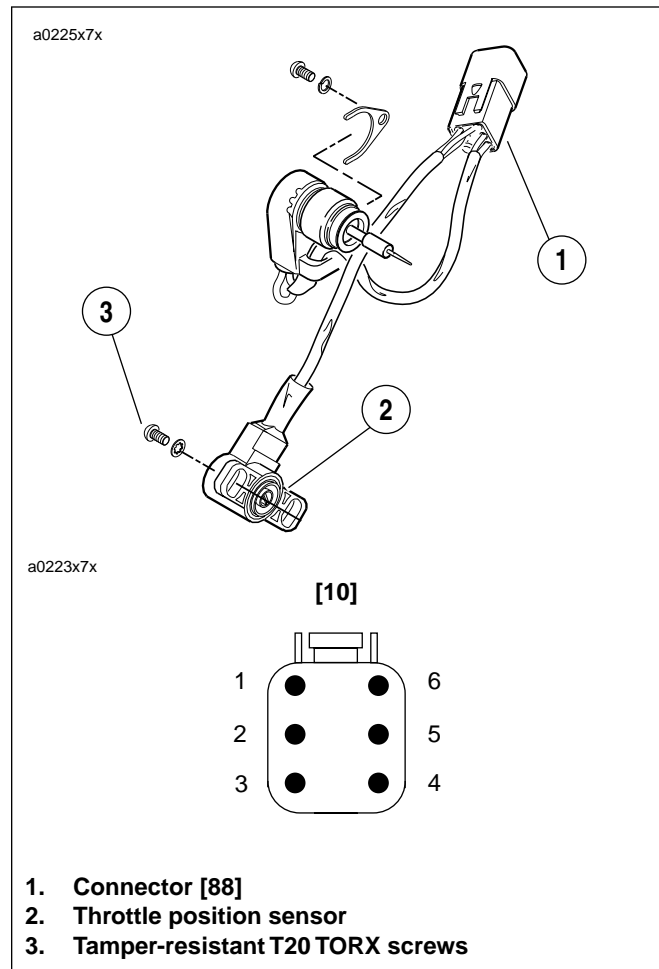

Figure 7-10. Throttle Position Sensor
See Figure 7-10. The throttle position sensor voltage determines which spark advance curve the ignition module selects. The throttle position sensor (TP Sensor) is located on the carburetor. The TP Sensor is not repairable. Replace the unit if it fails.
- f. Turn ignition switch to ON. Using a multimeter, measure voltage between pin 3 (V/W) and pin 5 (BK).
- h. Completely open and close the throttle by rotating the throttle control through its full range of motion. Wide Open Throttle (WOT) should not exceed 3.7V and reading should increase consistently as throttle is opened. If the voltage reading is erratic or the voltage reading at WOT exceeds 3.7V see Figure 7-10 for diagnostic testing.